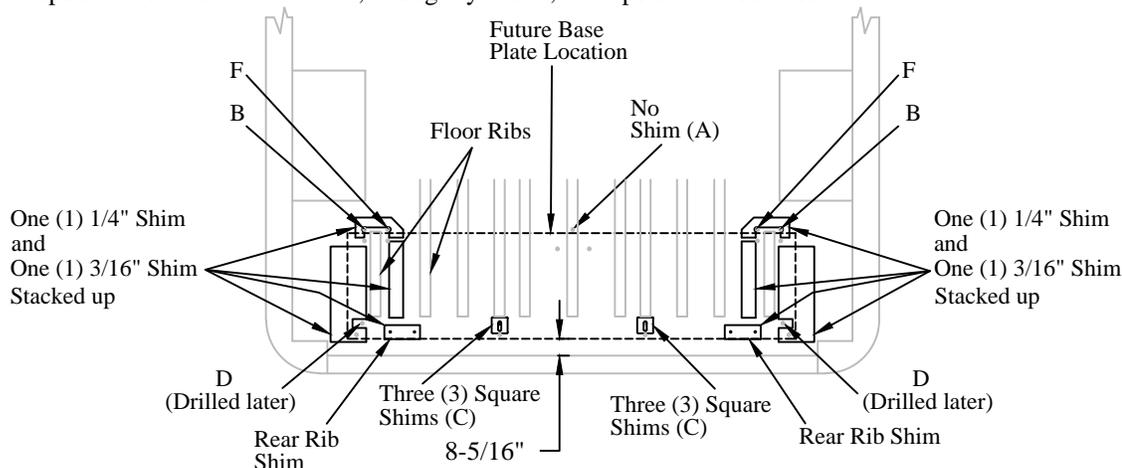

Figure 8: Rib shim locations (top view).
1. **Position** three (3) square shims at each "C" location (Figure 8)
2. **Position** the supplied rib shims next to the ribs of the metal van floor (Figure 8). Be sure to match one (1) 1/4" and one (1) 3/16" shim at each location.
8. Lower the liftgate onto the floor shims (Figures 8 and 15).